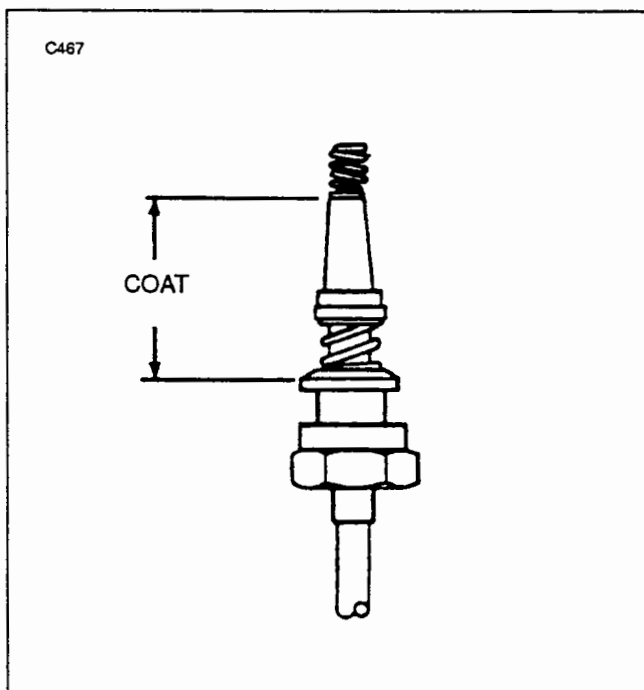
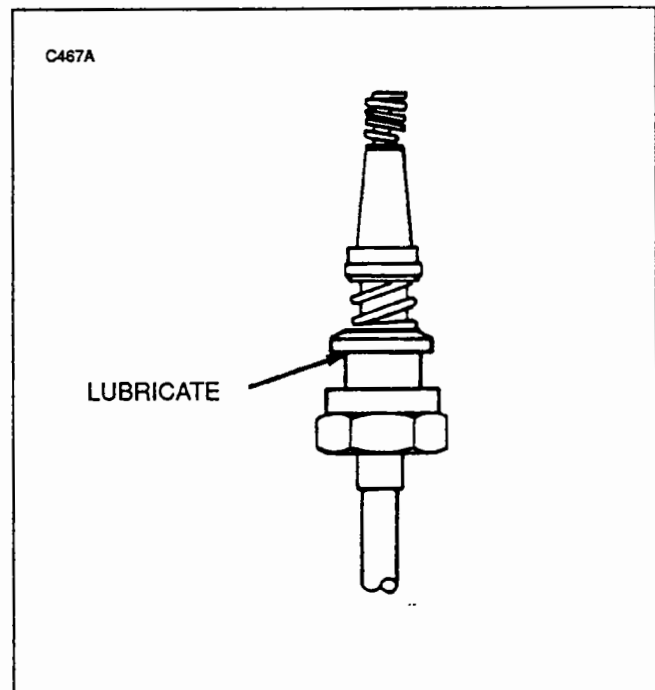

Figure 74-30. Lubricating Sleeve
Figure 74-31. Lubricating Ferrule Shoulder
- 9. Prior to seating spark plug lead terminal in plug barrel use fluorocarbon spray on spark plug terminal insulating sleeve (refer to Figure 74-30) to prevent heat from sticking sleeve to spark plug barrel. Lightly lubricate the shoulder of ferrule to minimize twisting of ferrule. (Refer to Figure 74-31 .) Use GO-JO NO LOK manufactured by GO-JO Inc., Akron, Ohio 44309.